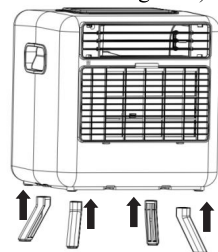

Figure 6
1.3.1 Install 4 leg braces to the base and fix it with the screws. (As shown in Figure 6)